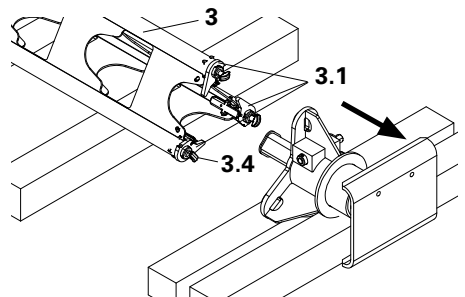

Fig. 28
3. Separate the Lowering Device HDA from the Prop Segment. (Fig. 28)